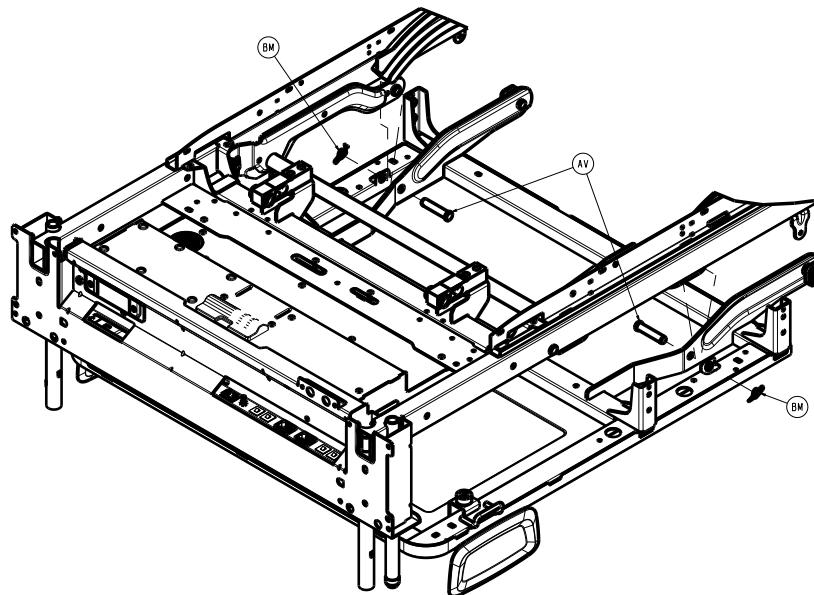

Figure 41 – Removing the left and right upper Fowler link rue clips
25. While you support the Fowler weldment, use needle nose pliers to remove the left and right side upper Fowler link rue clips (Figure 41).
27. While you continue to support the Fowler weldment, push up on the Fowler to relieve some of the pressure. Remove the left and right Fowler link clevis pins (Figure 41).